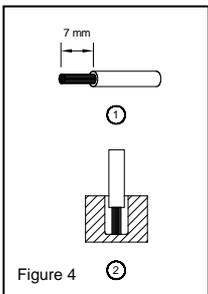

Figure 4
(1)	0.82-3.3	18-12	9.3	8.1
(2)	1.3-3.3	16-12	6.2	5.4
To secure reliable and shock proof connections, the stripping length should be 7 mm (see Fig. 4 (1)). Please ensure that wires are fully inserted into the connecting terminals as shown in Fig. 4 (2).